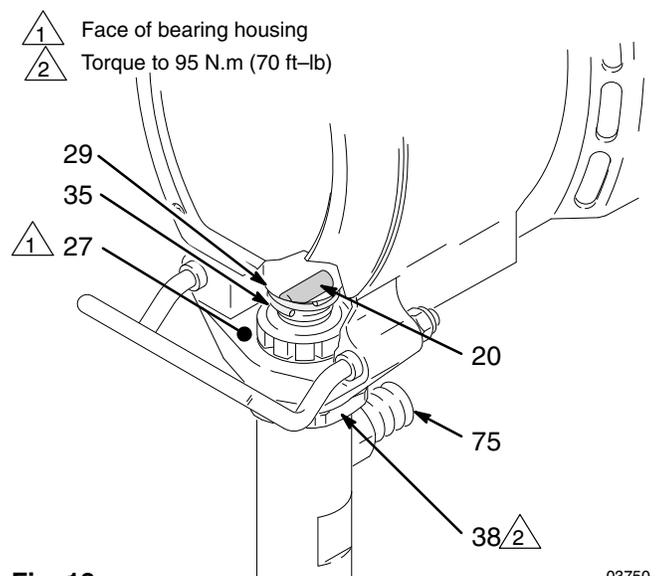

Fig. 13
- Test the brushes. Remove the connecting rod pin (20). See Fig. 13, page 13. With the sprayer off, turn the pressure control knob fully counterclockwise to minimum pressure. Plug in the sprayer. Turn the sprayer on. Slowly increase the pressure until the motor is at full speed. Inspect the brush and commutator contact area for excessive arcing. Arcs should not “trail” or circle around the commutator surface.